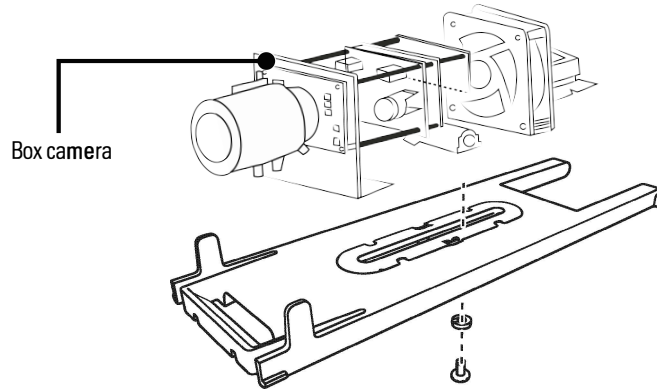

Figure 3. Attaching the Camera to the Sled
- a. Attach the camera to the sled with the 1/4-20 x 3/8-inch Phillips screw (supplied) and the 1/4-inch split lock washer (refer to Figure 3 on page 8).